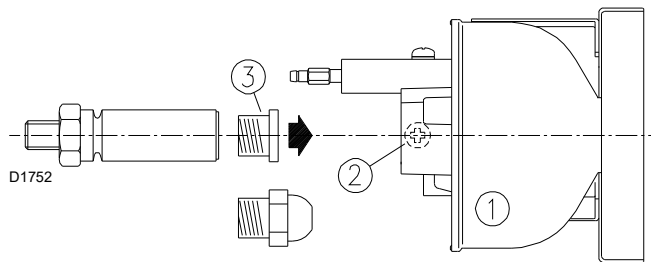

Fig. 11
- Loosen the screws 2)(Fig. 11) and remove the flameholder unit 1), remove the plastic plugs 3) and assemble the nozzles: do not use any sealing products such as gaskets, sealing compound, or tape.